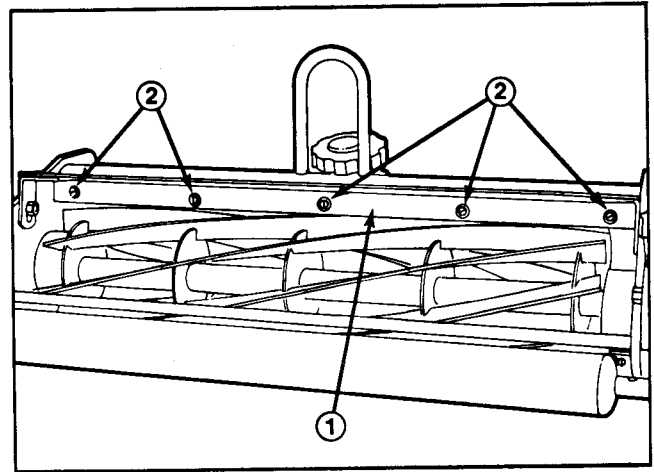

Figure 21
1. Loosen screws securing top bar (Fig. 21). Insert 0.060 inch feeler gauge between top of reel and bar and tighten screws. Make sure bar and reel are equal distance apart across complete reel.